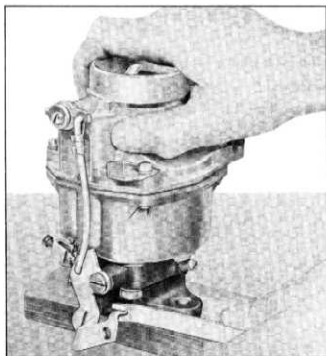

Fig. 108—Bend Throttle Lever Tang
3. If necessary, bend tang of throttle lever with tool J-4552 to obtain necessary clearance (fig. 108).